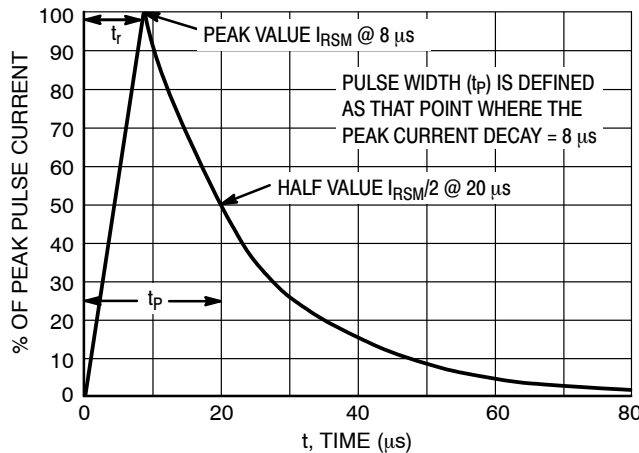

Figure 5. 8 x 20 μs Pulse Waveform
- V_C measured using pulse waveform in Figure 5.